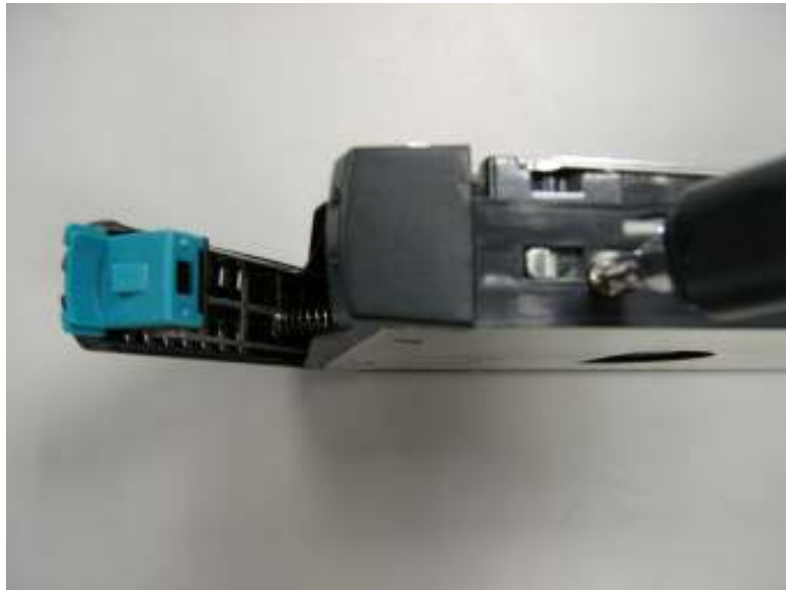

Figure D-12 Secure the Hard Drive in the Drive Tray
4. Align the mounting holes and insert four mounting screws to hold the drive securely in the drive tray as shown in Figure D-12.